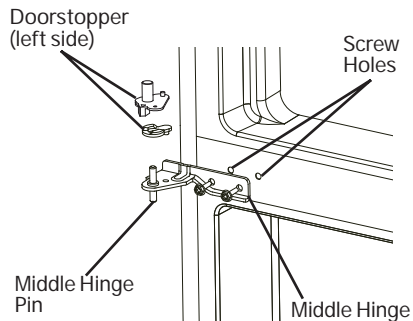

Fig. 8
6. To install refrigerator door: Line up the left bottom hole of the refrigerator compartment door over the bottom hinge pin. Move door forward to make it straight and align with middle hinge. Install the middle hinge again, and turn the hinge pin until it completely enters the door body. Secure it with the screws provided. (see Fig. 8)